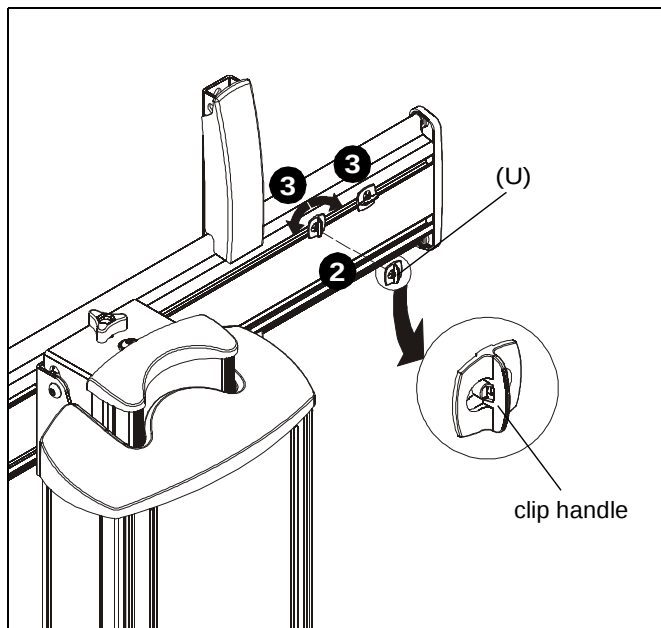

Figure 12
2. Place FCA clip (U) into groove on back of Fusion mount with clip handle in a vertical position. (See Figure 12)
3. Rotate FCA clip (U) 90° in either direction until clip handle is in a horizontal position. (See Figure 12)